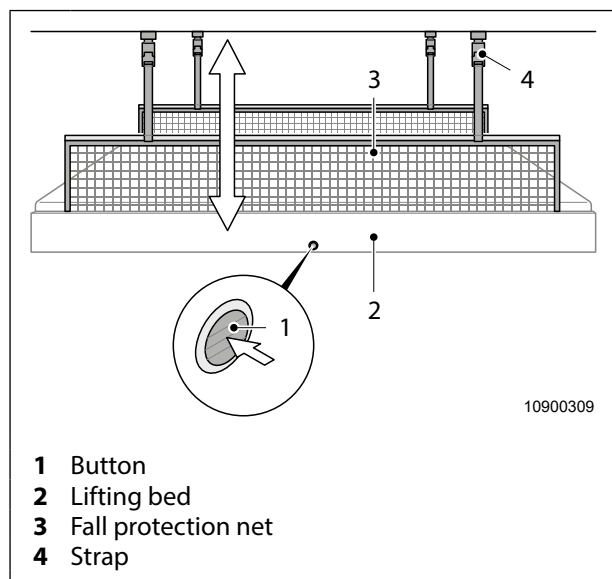

Fig. 35 Lifting bed
1. Lift the lifting bed slightly and press the button (Fig. 35, item 1).
2. Keep the button (Fig. 35, item 1) pressed and pull the lifting bed down.
3. Release the button (Fig. 35, item 1) when the desired position is achieved. The lifting bed engages in the next catch.
4. Secure the fall protection net (Fig. 35, item 3) with the straps (Fig. 35, item 4) at the top.
5. Secure the second fall protection net (Fig. 35, item 3) with the straps (Fig. 35, item 4) at the top when the rear door is open.